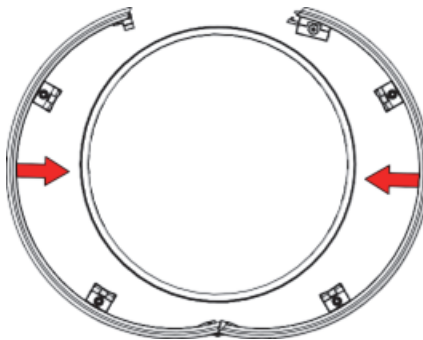

Figure 1-20 Installing the circumferential band
2. Wrap the band around the pipe (see Figure 1-20 on page 39).